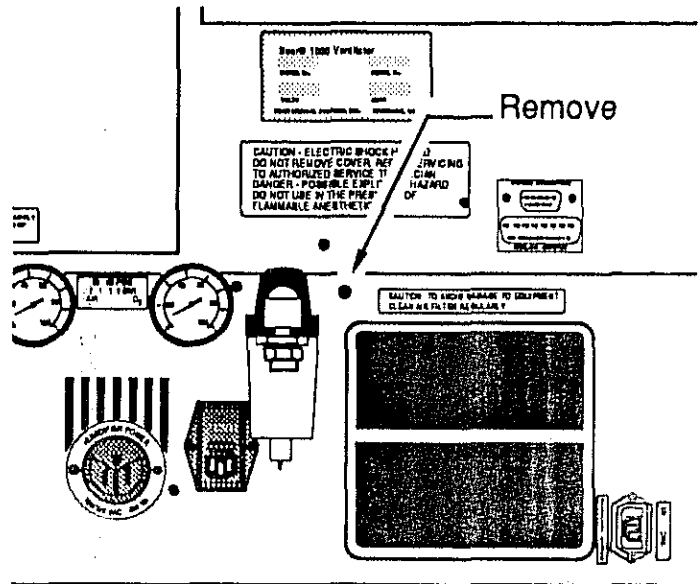

Figure 8-1
2. Remove the screw indicated in Figure 8-1.